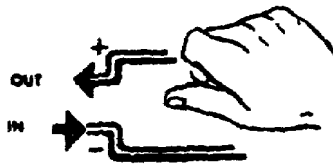

Figure 22. Right-Hand Rule.
b. With the rotor in the first position (1) there is no voltage being generated in the loop of wire, because there are no magnetic lines of force cutting across the conductor. As the rotor turns and approaches position (2), the rather weak magnetic field at the leading edge of the rotor starts to cut across the conductor and the voltage increases. When the rotor reaches position (2), the generated voltage has reached its maximum value as shown above the horizontal line in the illustration. The maximum voltage occurs when the rotor poles are directly under the conductor. It is in this position that the conductor is being cut by the heaviest concentration of magnetic lines of force.
d. By applying the Right-Hand Rule (fig 22) to position (2), it is seen that the direction of current in the loop of wire will be out of the top end of the conductor and into the bottom end. Thus, the top end of the conductor will be positive and the bottom end negative. The voltage curve which is shown above the horizontal line represents the positive voltage at the top end of the wire loop which is generated as the rotor turns from position (1) to position (3). As the rotor turns from position (2) to position (3), the voltage decreases until at position (3) it again becomes zero.